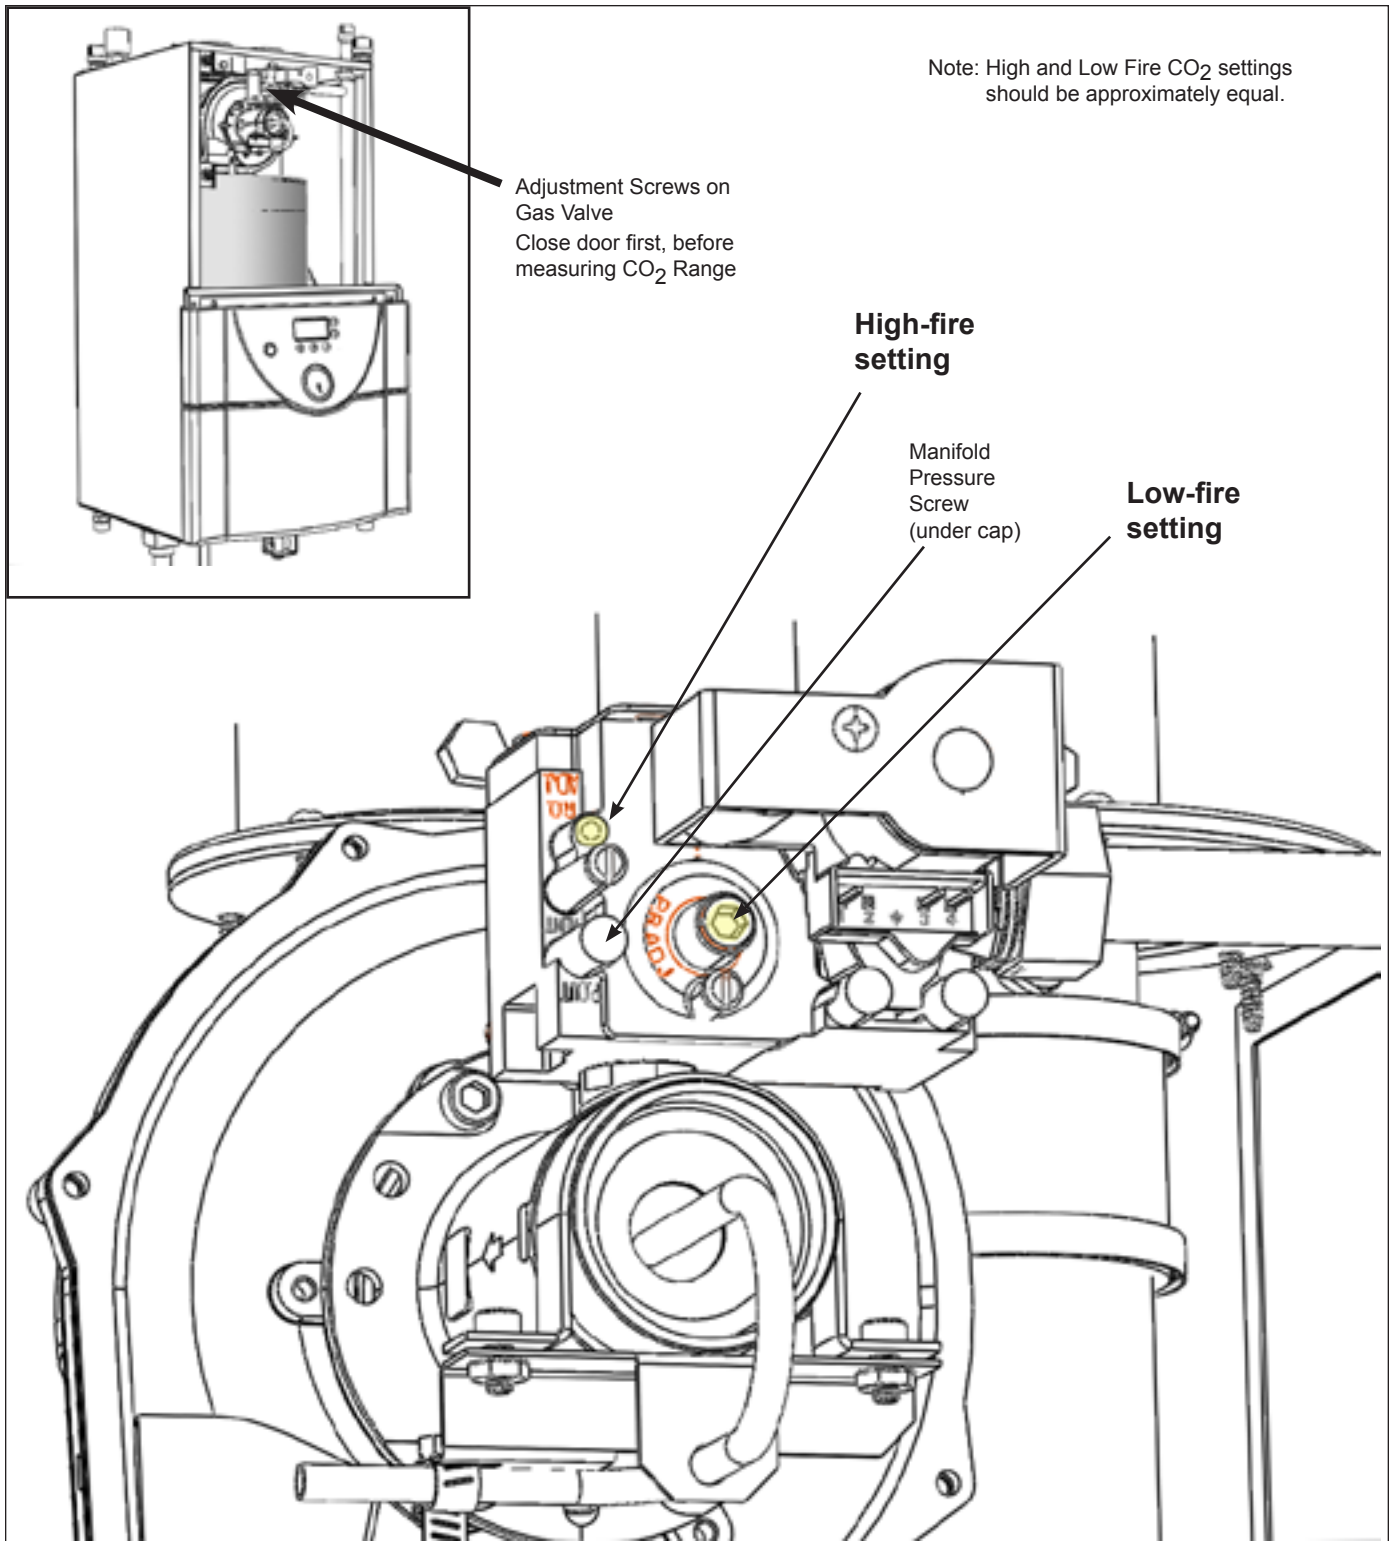

Figure 26. Adjustment Screws and Settings for CO₂
1. Measure the CO₂ in the flue products at high fire. The Mascot LX can be forced to high fire to allow for easier setup. Refer to **Section 8** for instructions on how to access the forced rate menu. The CO₂ readings should be between the range shown in **Table 17**. If the CO₂ is not within the range shown, adjustments may be made. To adjust the high fire CO₂, locate the high fire adjuster screw (see **Figure 26**). **Using a 2.5 mm Hex wrench, slowly make adjustments in 1/16 of a revolution increments until the CO₂ is within the range identified.** (see **Figure 26**)
2. Measure the CO₂ in the flue products at low fire. Mascot LX can be forced to low fire to allow for easier setup. Refer to **Section 8** for instructions on how to access the forced rate menu. CO₂ readings should be between the range shown in **Table 17**. If the CO₂ is not within the range shown, adjustments may be made. To adjust the low fire CO₂, locate the low fire adjuster screw. **Using a 4 mm Hex wrench, slowly make adjustments in 1/16 of a revolution increments until the CO₂ is within the range identified.** (see **Figure 26**)
6. With a combustion analyzer, check CO₂ levels at both maximum and minimum input. Refer to sections **Figure 26** and **Table 17** of this manual for the proper adjusting procedures.